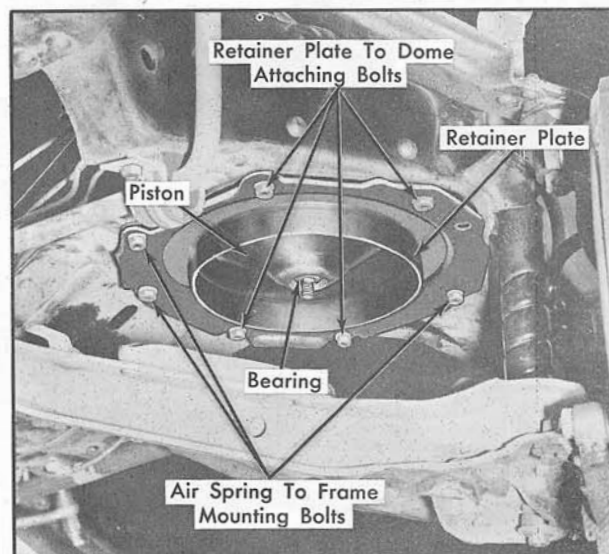

Fig. 4-24 Front Air Spring Removal
3. Disconnect adjusting link at leveling valve control arm and pull down on control arm to exhaust air from front springs. Allow sufficient time for all air to exhaust (approximately 5 minutes). Fig. 4-24.
11. Remove three mounting bolts that secure air spring assembly to front frame member Fig. 4-24, and remove spring assembly.
1. Remove four attaching bolts that secure retainer plate to dome Fig. 4-24, and separate retainer plate from dome.
(41) Front Air Spring Assembly, Right or Left, Assembly and Installation
5. Install retainer plate on air dome and secure with four attaching bolts, Fig. 4-24.